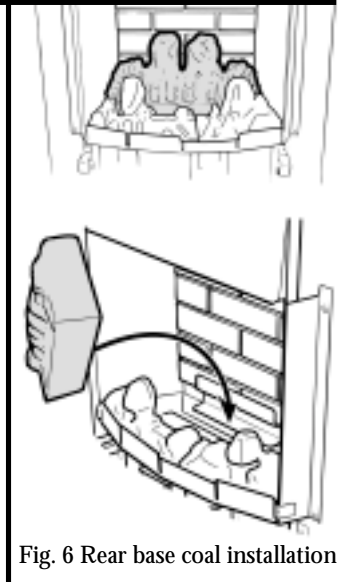

Fig. 6 Rear base coal installation
3. Place the rear base coal in the burner compartment behind the front coal. Its rear face should touch the rear ceramic wall (See figure 6).